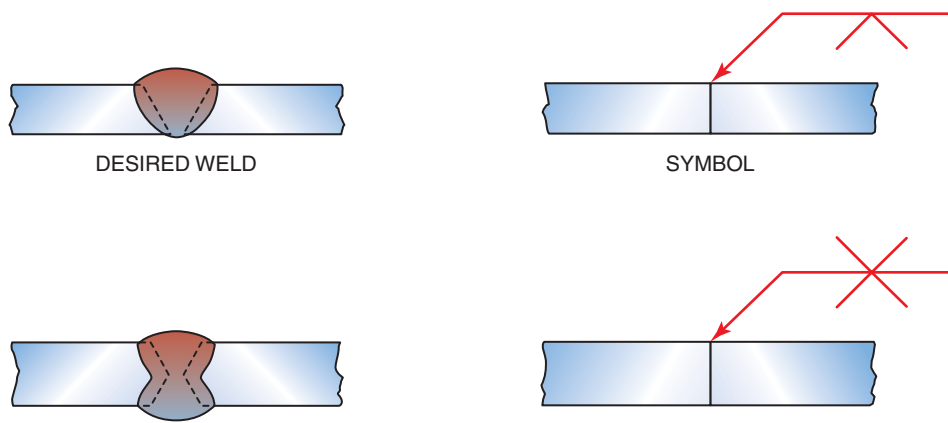

Figure 3.40 Designating single- and double-groove welds with complete penetration
- single-groove and symmetrical double-groove welds that extend completely through the members being joined. No size is included on the weld symbol, Figure 3.40.